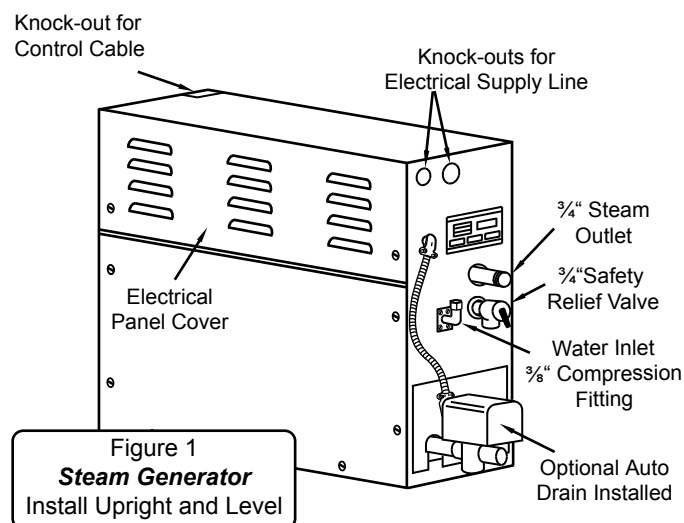

Figure 1
- The steam generator can be mounted to a wall or set on the floor. However, the unit must be secured. To secure the unit to a vertical wall, loosen the two screws holding the electrical access cover, remove cover (see Figure 1). Located inside the cabinet near the top left and right corners are mounting holes. Place top cover back and secure.